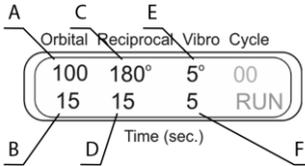
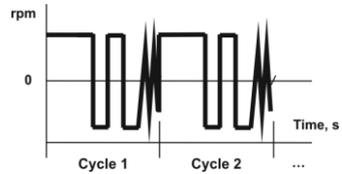

Figure 6
Figure 7
6.9.2 **3D orbital + 3D reciprocal + 3D vibro** (figure 6). Set the speed (**A**, 1–100 rpm) and time (**B**, 1–250 s) of 3D orbital motion. Set the angle (**C**, 0–360°) and time (**D**, 1–250 s) for 3D reciprocal motion. It is performed at the same speed as the orbital motion. Set the turning angle (**E**, 0–5°) and time (**F**, 1–5 s) for 3D vibro type motion. Figure 7 shows 3D orbital, 3D reciprocal and 3D vibro motions run one after another in cycles.